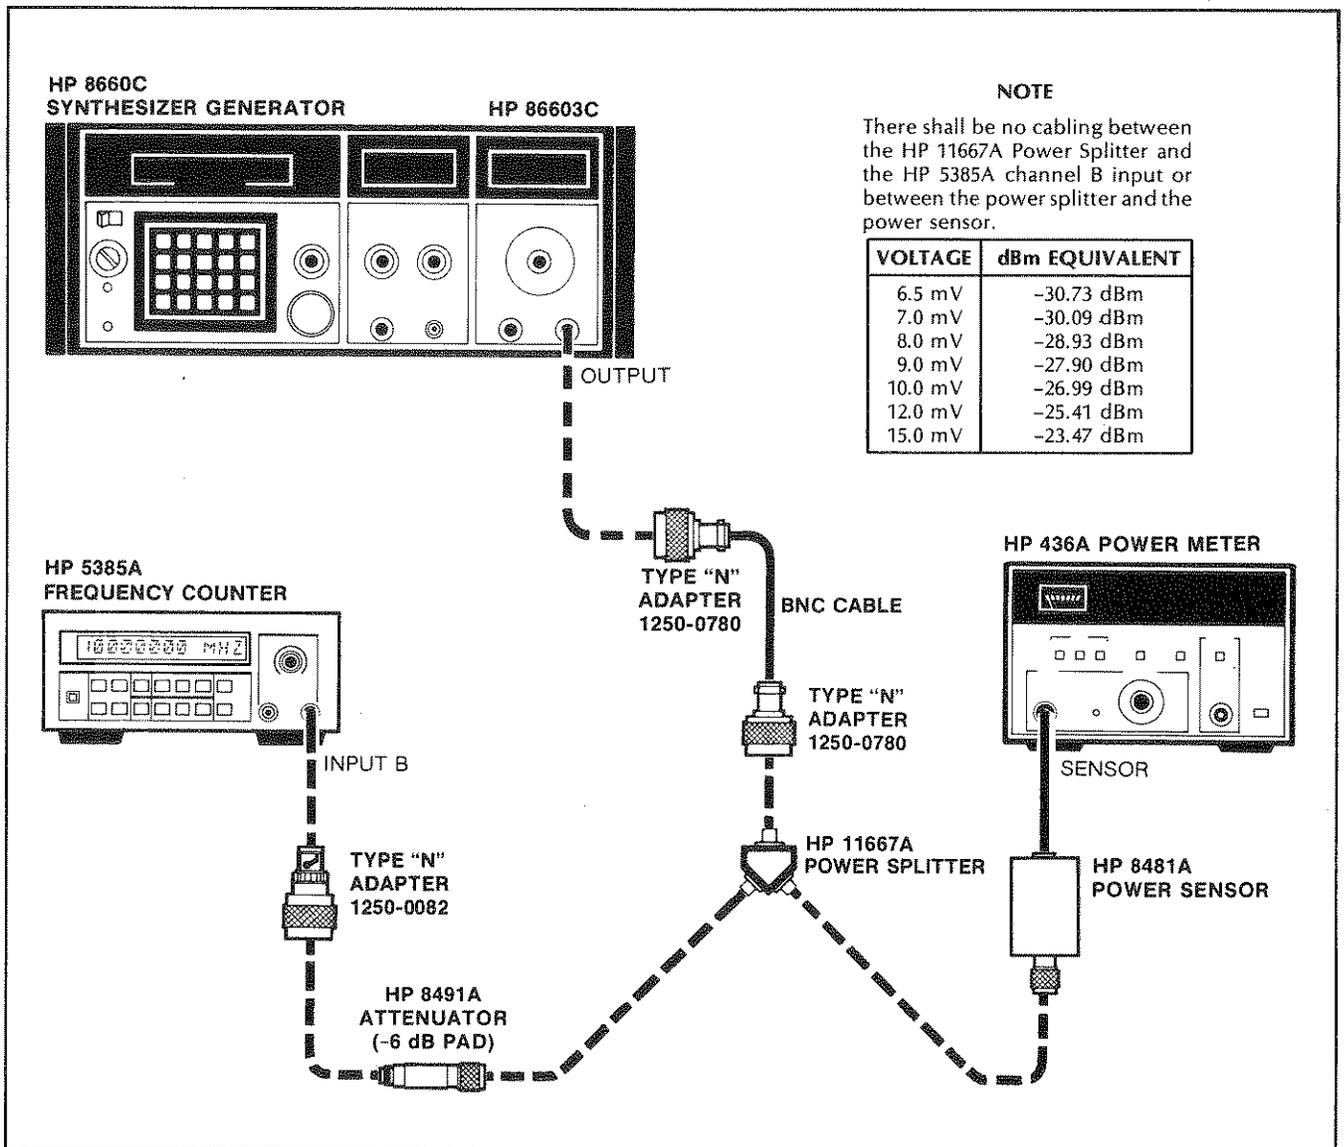

Figure 5-5. HP 5385A Channel B Input Amplifier Adjustment Setup
c. Connect instruments as shown in Figure 5-5.